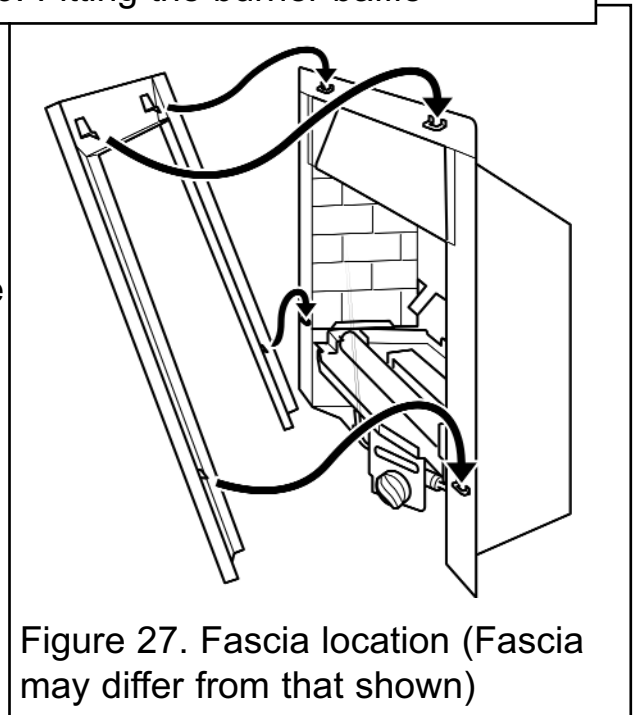

Figure 27. Fascia location (Fascia may differ from that shown)
1. Carefully lift the fascia. Place the fascia against the fireplace front surface so that the four retaining plates at the back of the fascia are directly above the four retaining brackets on the hotbox. Lower the fascia unit making sure that the retaining plates locate fully into the brackets on the hotbox (See figure 27). If the inlet pipe runs along the front of the fireplace, the bottom of the fascia will have to be swung forward to clear the pipe while lowering the fascia.